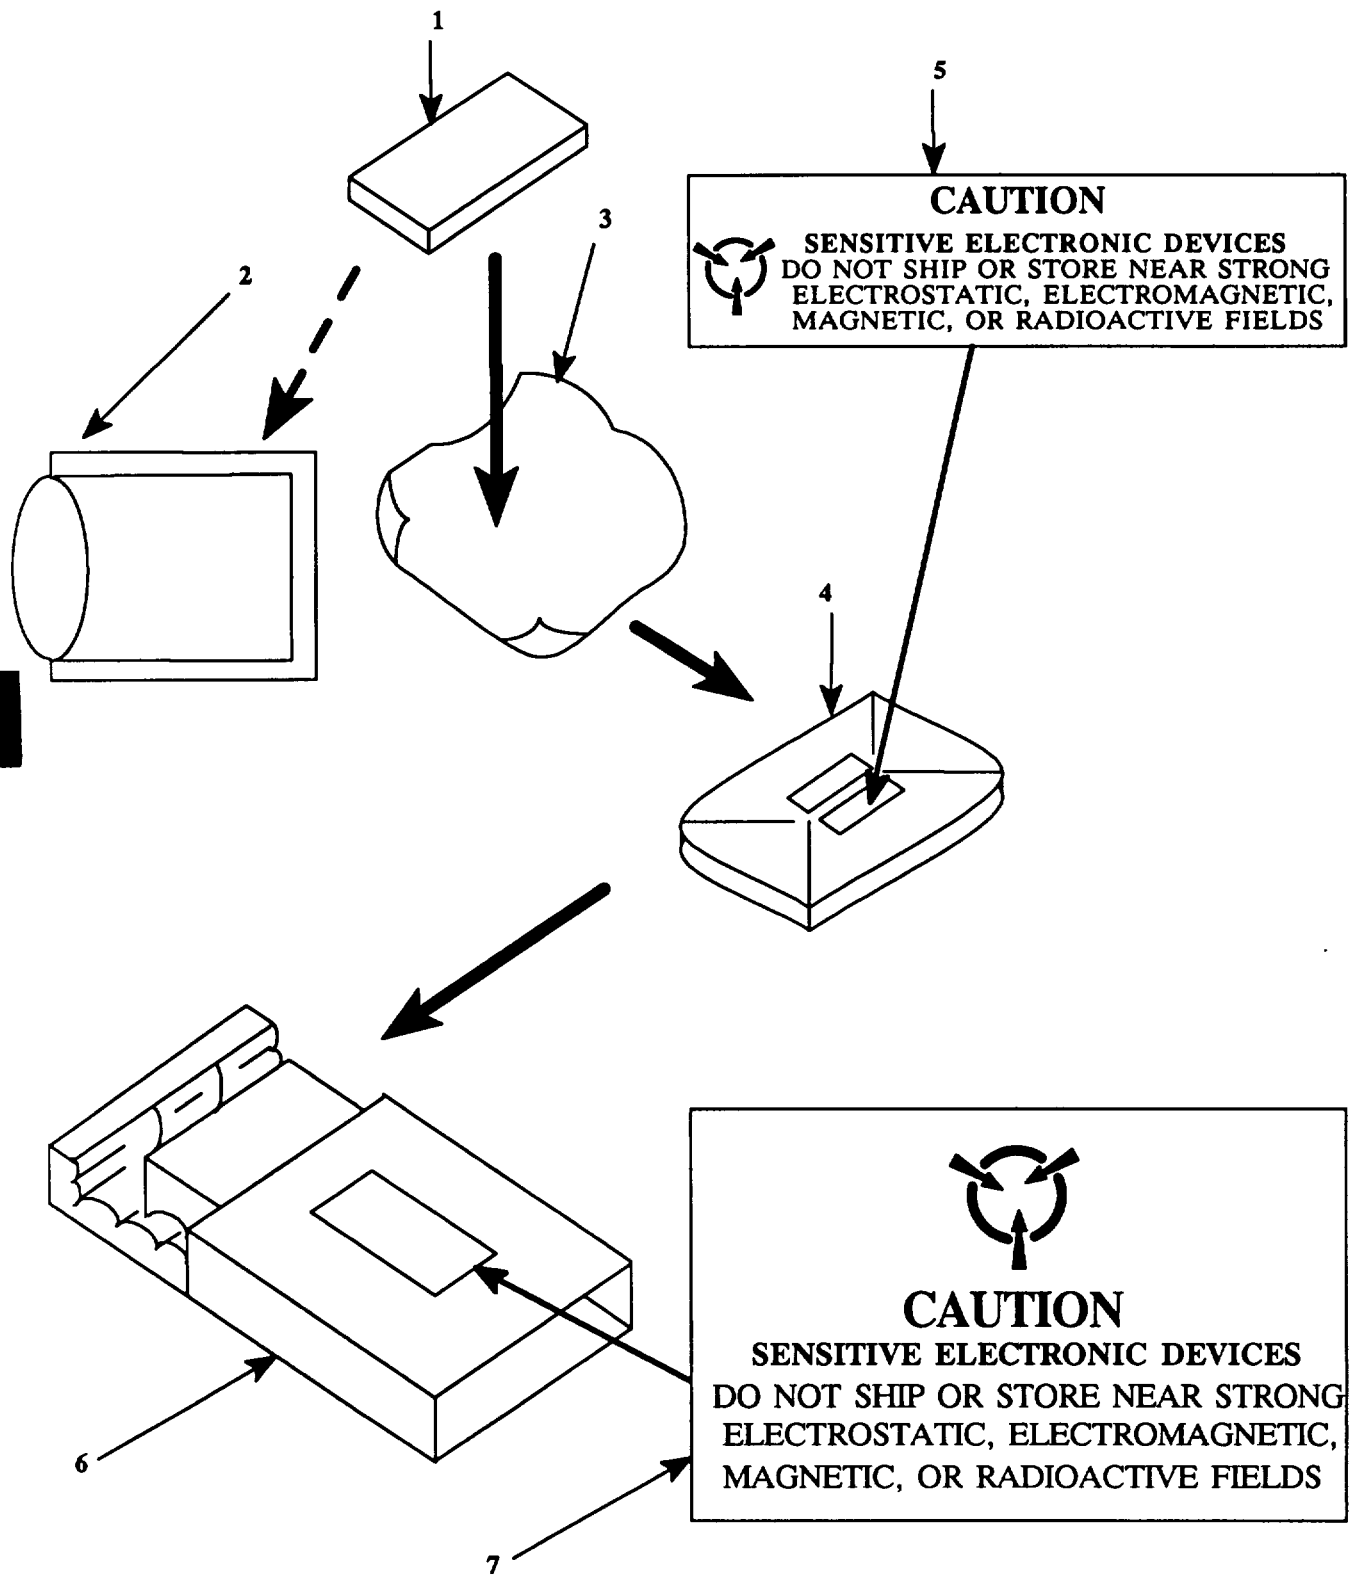

Figure 2-14. Packing Static Sensitive Modules.
a. Module (1)	a. Place inside antistatic bag (2) or inside antistatic wrapping material (3). See figure 2-14.
b. Antistatic package (4)	b. Seal with adhesive tape. Attach "sensitive electronic device" unit pack label (5).
c. Antistatic package (4)	c. Place inside approved shipping container (6).
d. Shipping container (6)	d. Attach "sensitive electronic device" intermediate pack label (7).